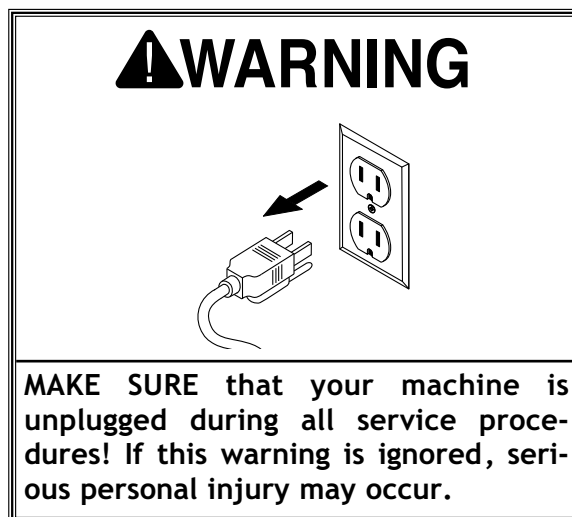

Figure 40. Wheel replacement.
2. Remove the three cover screws and the cover (see Figure 40).
3. Put on your safety glasses and remove the retaining ring (see Figure 40) using external retaining ring pliers.